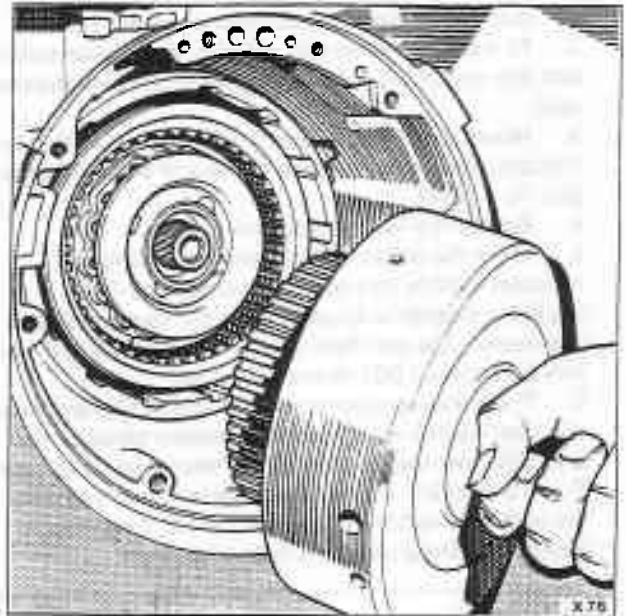

Fig. T19-1 Removing the forward clutch assembly
3. Withdraw the turbine shaft and the forward clutch from the transmission (see fig. T19-1).